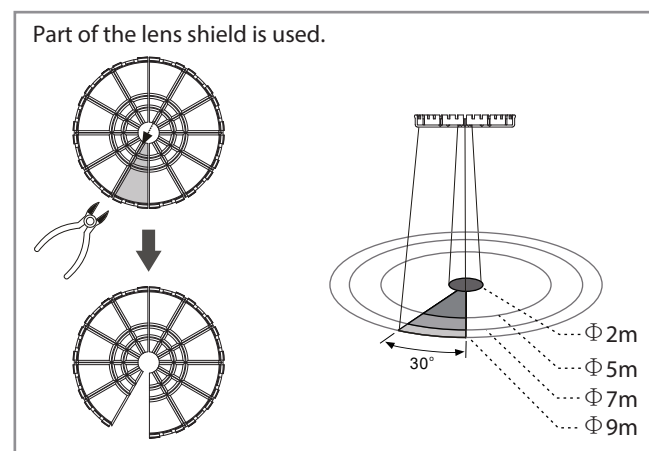

FIG.12-B
- The shadow part of the lens shields in FIG.12-A & FIG.12-B is referring to the cut off parts.